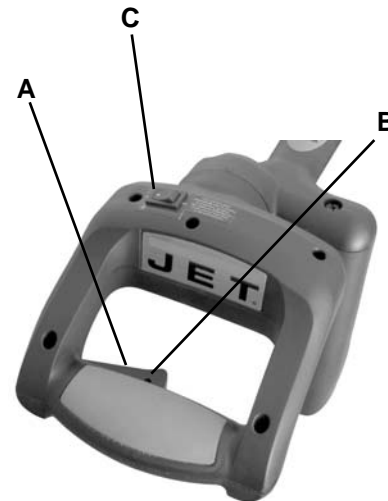

Figure 23
The laser is turned on with a switch located on the saw handle (C, Fig. 23). When left on indefinitely, a sensor will turn the laser off after 20 minutes. The switch must be reset (turned off for two seconds, then on again) to restart.
4. Squeeze the *trigger switch* (A, Fig. 23) to start saw.
2. Release trigger switch (A, Fig. 23) and wait for all moving parts to stop before moving your hands and raising the cutting arm.
Depress the trigger switch (A, Fig. 23).
**Note:** Make the On/Off switch child-proof by inserting a padlock through the hole (B, Fig. 23) in the trigger switch.